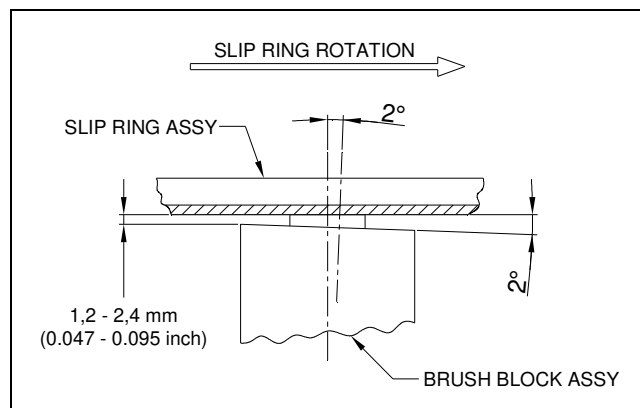

Figure 5-4
- c) Check the brush block assembly for correct distance and angular location to the slip ring, as shown in Figure 5-4. The distance between brush block and slip ring should be between 1,2 and 2,4 mm (0.047 to 0.095 inch) and brush block should be angled of 2 degrees from perpendicular of the copper rings, toward the direction of slip ring rotation. As required, reposition the brush assembly on the mounting bracket as follows:
- 2) Reposition the brush block to establish the correct distance and angular location to the slip ring, as shown in Figure 5-4.